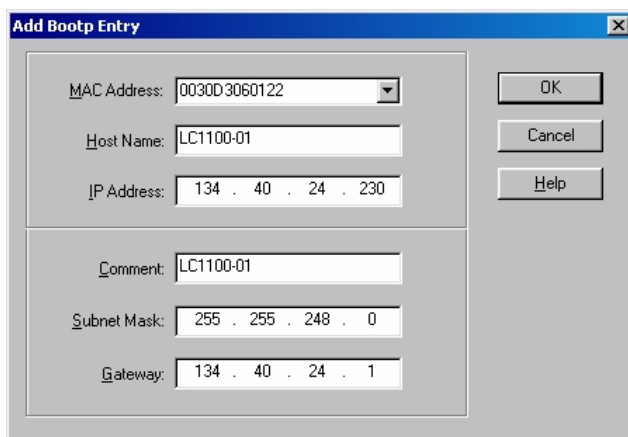

Figure 9 Add Bootp Entry - Enter your parameter
- 5 Select *Configure -> Add Entry* to configure the Bootp Manager (Figure 9). The drop down box "MAC address" lists all MAC addresses found. Select your MAC address. If no hardware address is found, select *Cancel* and repeat step 3 and step 4.